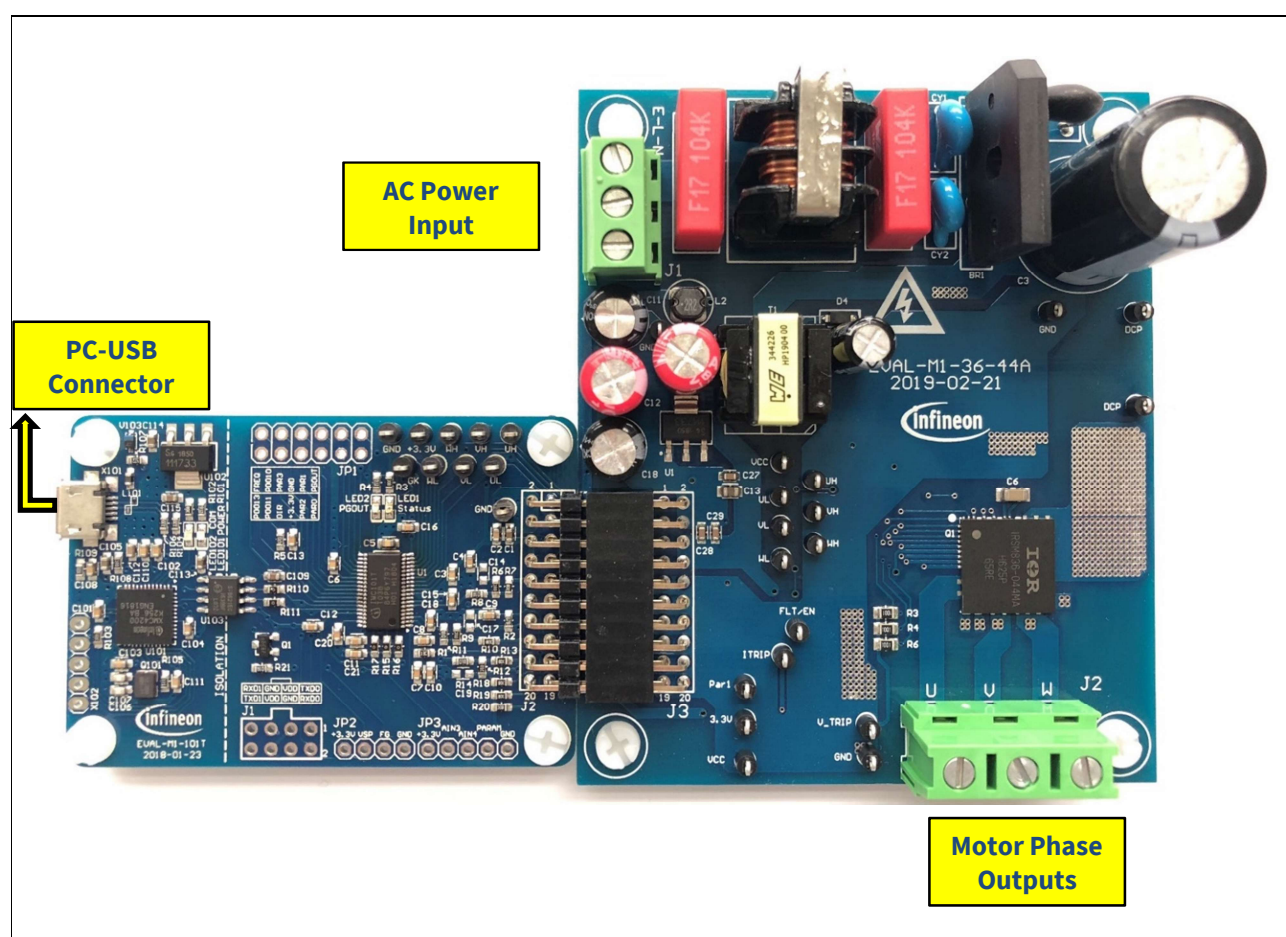

Figure 5 System connection example using EVAL-M1-101T and EVAL-M1-36-84A
2. Connect EVAL-M1-36-A's MADK M1 20-pin interface connector (J3) to control board (see Figure 5).